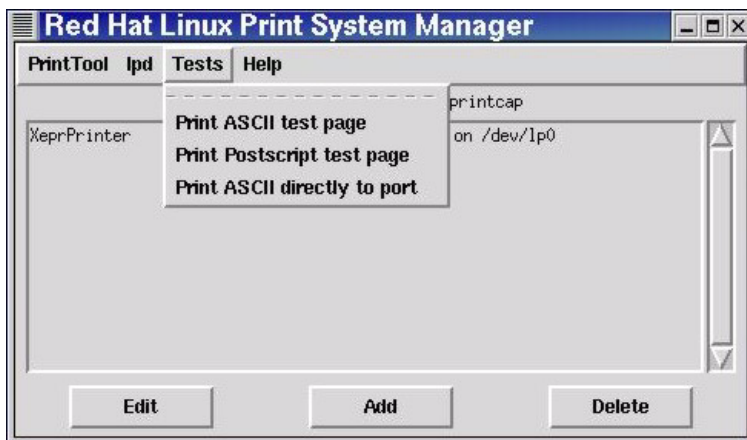

Figure 16-21 Testing the printer.
9. **Test the printer.** Select the printer by left clicking on the printer entry. Click **Tests > Print ASCII test page** to verify the text printer. (See Figure 16-21.) Click **Tests > Print Postscript test page** to verify that Postscript printing is working properly. If the test page is printed out correctly close this window and the **Control Panel** window. If there is a problem follow the instructions on the test page or consult the Linux documentations.